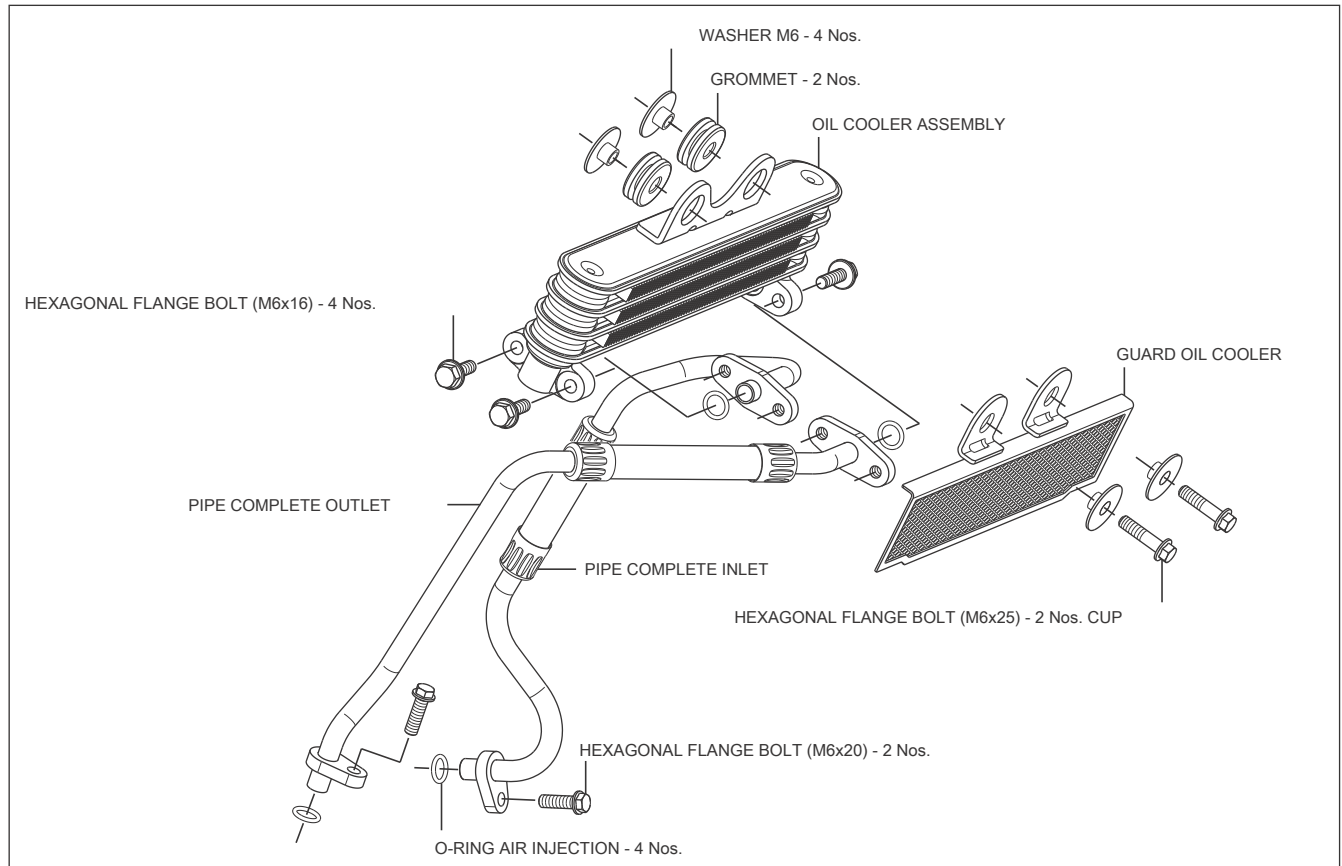

Fig. 2.61
- ▮ Reassemble the parts in the reverse order of removal. Refer exploded view for details. (Fig. 2.61)